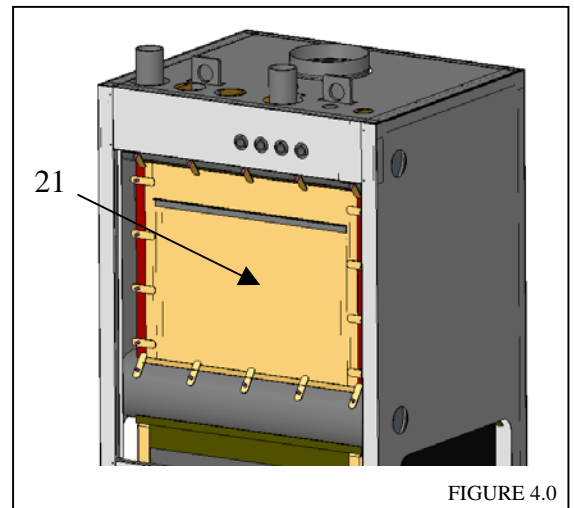

FIGURE 4.0
- 4.1 Place the tube panel (Item #21) in position making sure that the gasket material provided is in place on the top edge of the tube panel. Now, fasten the panel in place with the tube clamps and nuts. See figure 4.0.